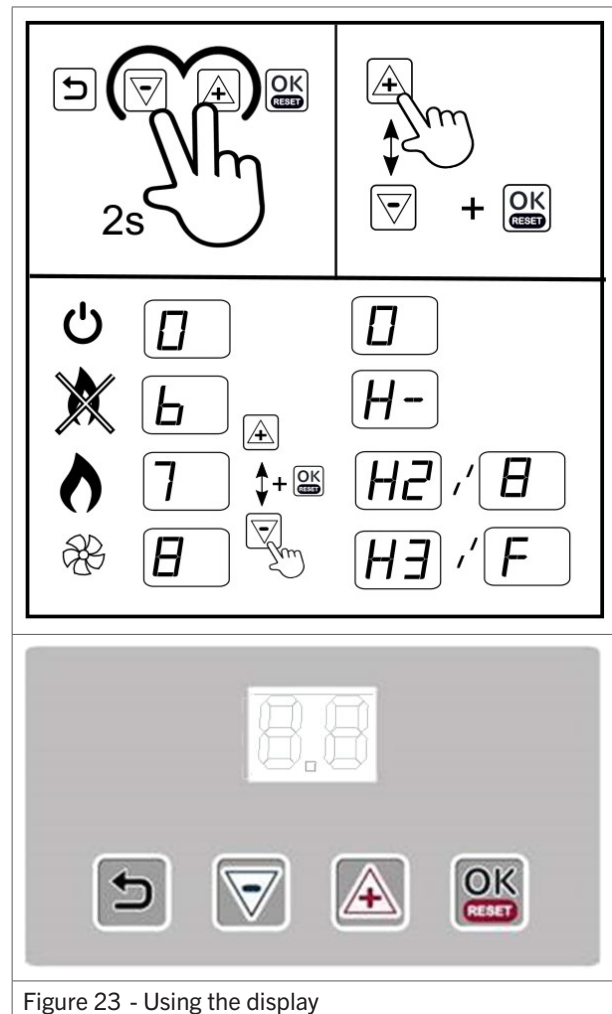

Figure 23 - Using the display
1. Press the (+) and (-) buttons (figure 23) simultaneously. The display shows a blinking 0.
1. Press the (+) and (-) buttons (figure 23) simultaneously.